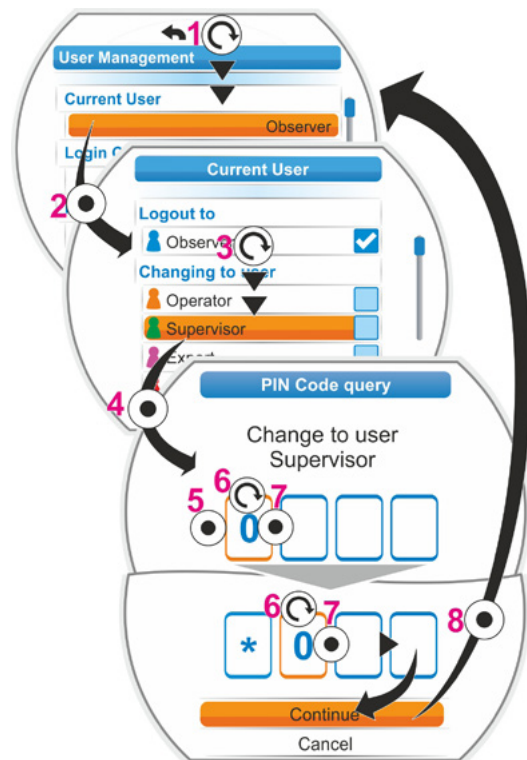

Fig. 2: Log on user level with PIN
2. Set the orange selection marker to the line below 'Current user' (fig. 2, item 1).
3. Confirm selection (fig. 2, item 2). Display changes to 'Current user' menu. Comment: